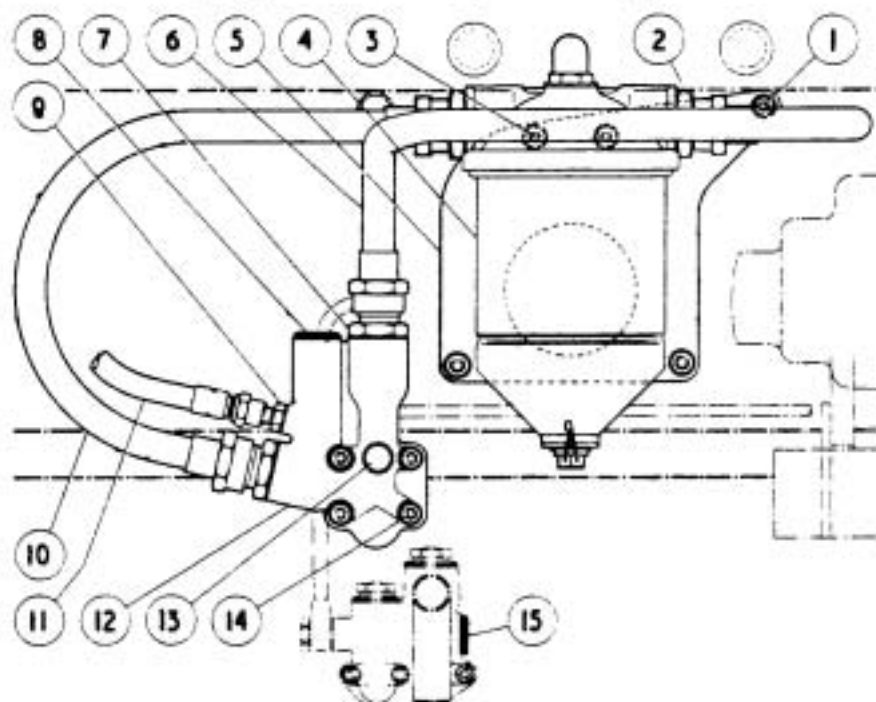

FIG. 3. FRONT ELEVATION - FULL FLOW OIL FILTER.
The crankcase casting was altered for this purpose, the vertical passage to the gallery being diverted to the lower orifice of a new "external" facing approximately 3"(76mm) above the oil relief valve unit; the upper orifice in this facing communicating with the gallery. The pipes leading to and from the Vokes filter, and also the oil pressure gauge pipe, are connected to an adaptor mounted on the facing. Fig.3 illustrates the external layout, but depicts a Vokes E-62 filter (centre bolt lid fixing) which is now used instead of the E-30 type (six bolt lid fixing).
SCHEME 'A' conforms to the layout shown in Fig.3, and is relatively simple in installation, being confined to external alteration only. It can be applied to engines, the crankcase of which have the adaptor facing referred to above. Generally speaking, this modification to the crankcase was first introduced at the commencement of 'H' series to provide a means of employing full flow filtration on unit test, and in anticipation of the scheme becoming standardised later. Crankcases of this type may be recognised by reference to Figs. 1 & 2, which show special adaptors used in conjunction with the original By-Pass Filters.
3. INSTRUCTIONS FOR FITTING: (REFER TO FIG.3)